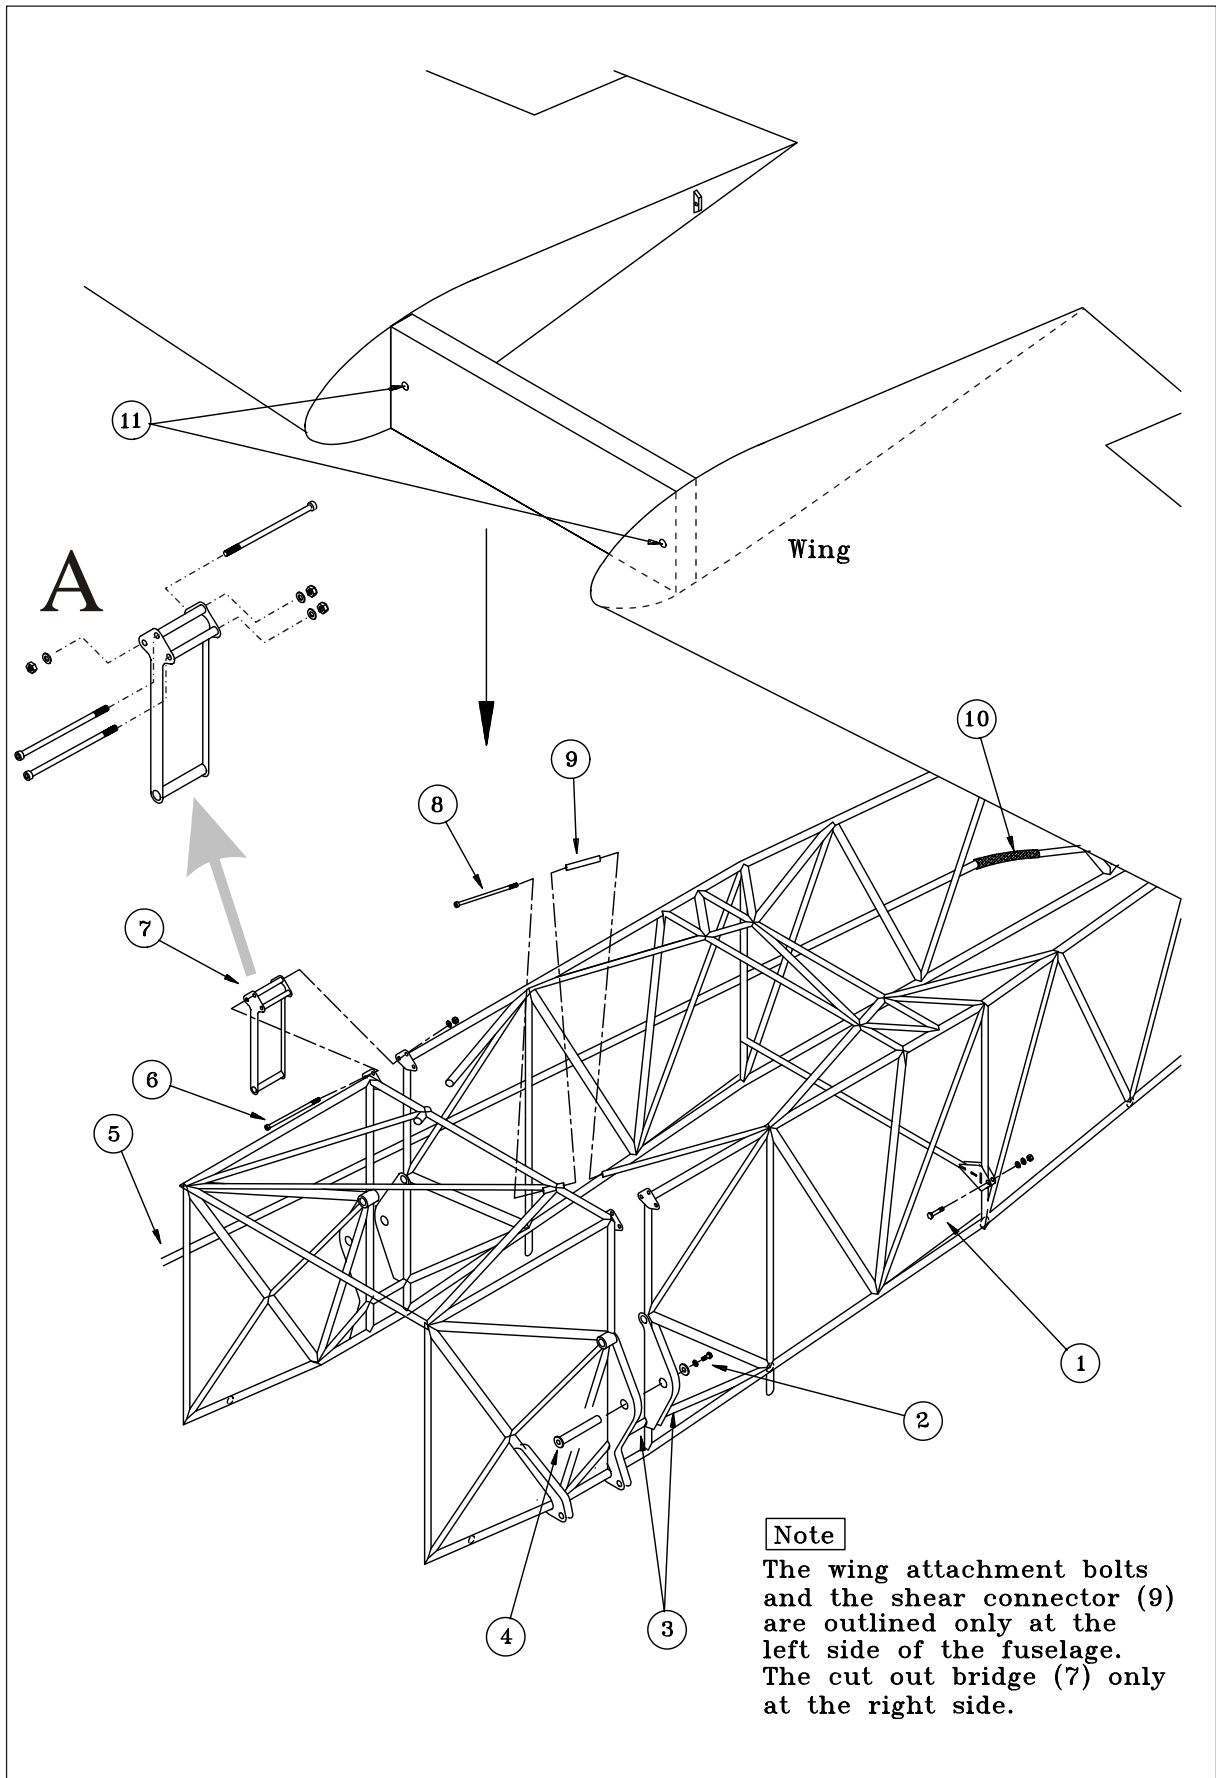

Figure 3
- 8 Slide in shims if necessary and install the main spar tubular bolts (4, Figure 3) to the wing flange bushings (11) from front to rear.
- 9 Secure main spar tubular bolts with LN 9038-08020K (2) bolts or LN 9037-08020K (2), DIN125 M8 washers and special aluminum washers (30x11x4). Torque security bolts for fastening and subsequently safety wire
- 10 Install upper longeron cutout bridges (7) using at each side 3x DIN912 M8 x 180, 3x DIN125 M8 washers and 3x LN9348-08 stop nuts at the top and 1x DIN912 M10 x 230 bolt, DIN125 M10 washer and LN9348-10 stop nut at the bottom (6). Check cutout bridges for RH and LH marking. Install the bolts from front (firewall) to rear (aircraft tail). Torque stop nuts for fastening.
- 11 Install the shear connectors (8). Use two DIN 912 M12x220 bolts and safety wire.